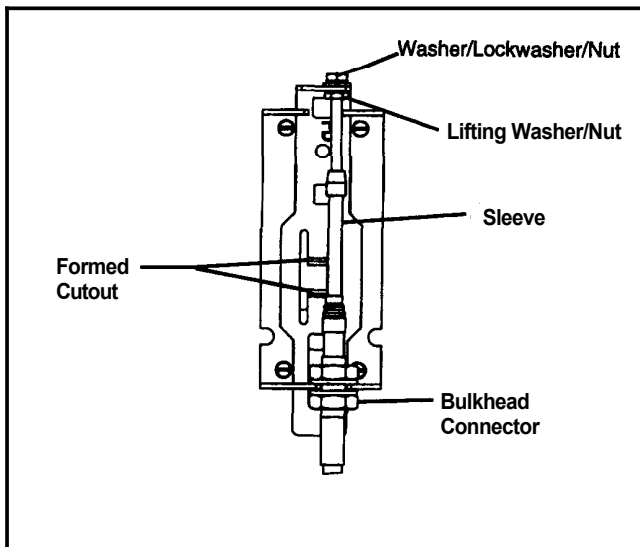
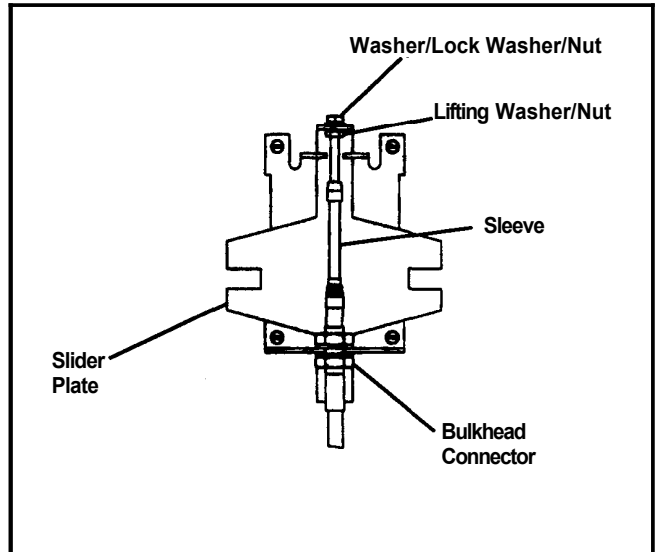
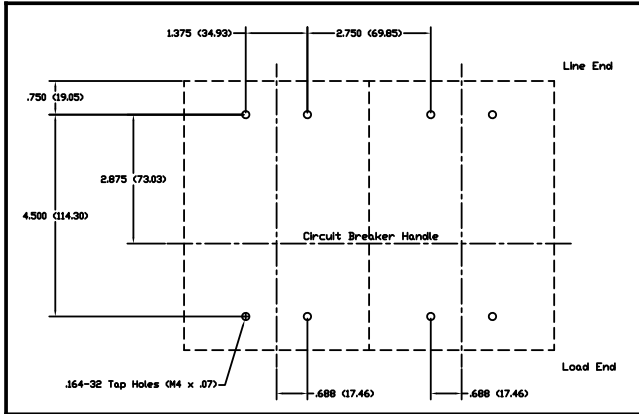

Fig. 1-3 F-Frame Dual Mechanism.
Fig. 1-4 F-Frame Dual Actuator Mechanism.
Fig. 1-9 Dual Flex Shaft™ Breaker Drill Plan.
The Flex Shaft handle mechanism provides a means of externally operating the circuit breaker and can be applied to enclosures of varying heights and depths. The handle can be used with NEMA 1, 3R, and 12 enclosure applications, depending on the accessory components selected. An operating handle, flexible shaft, and mechanism are required for standard application. Eight lengths of shafts are available for use with the wide range of depths of various enclosures (3' through 10'). When selecting the length of the Flexible Shaft, ensure Minimum Bending Radius of 4 inches is maintained to operate properly. The standard method of shipment includes the mechanism preset at the factory. If minor field adjustments are required see Figure 1-3 or Figure 1-9. For this publication, the term circuit breaker shall also include the molded case switch and Series C motor circuit protector (HMCP).
In the event a customer must disassemble the preassembled Flex Shaft handle mechanism, the following procedure must be followed before continuing with the installation instructions. (See Fig. 1-4).
8. Check operation of mechanism for ON, OFF, and reset. Check the reset position of the actuator mechanism, that the lifting nut and sleeve of shaft do not come in contact with each other (see Fig. 1-4). If they do, move bulkhead connectors accordingly. If mechanism functions incorrectly, repeat procedure or go to Adjustment Checklist.
Loosen the lifting washer/nut while tightening the washer/lock washer/nut, two or three turns should be sufficient (see Fig. 1-3 or Fig. 1-4).
Check the reset position of the actuator mechanism, so that the lifting nut and sleeve of shaft do not come into contact with each other (Fig. 1-3 or Fig. 1-4). If they do, move bulkhead connectors accordingly.
For a K-Flexible Shaft Assembly, loosen the washer/lock washer/nut on the end of the shaft while tightening the lifting washer/nut until breaker turns ON with positive action. Tighten both nuts and recheck for ON, OFF, and Reset positions (Fig. 1-3 or Fig. 1-4).
Be certain after adjustment to have a minimum of 1 thread past the washer/lock washer/net assembly (Fig. 1-3 or Fig. 1-4).